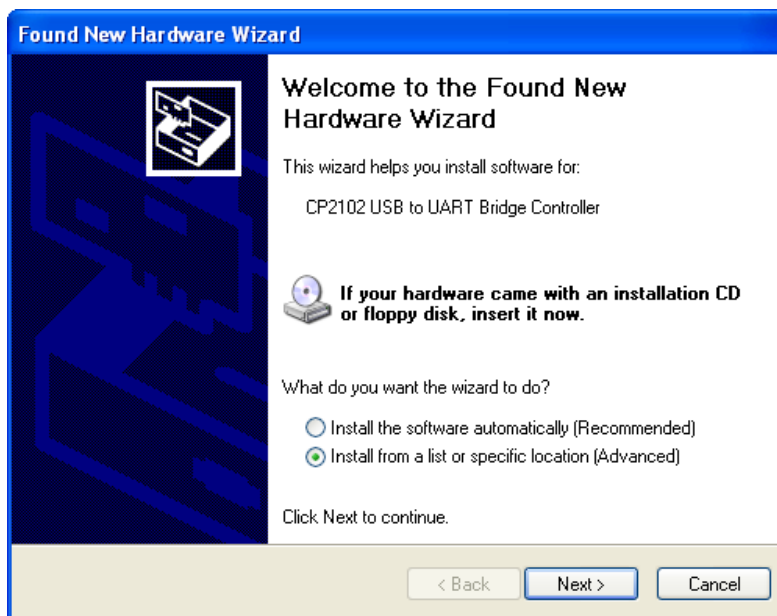

Figure 3 - Screen, New Hardware Wizard (Installation Method)
- 1) First, connect an evaluation board to the PC using a USB cable. Power the evaluation board by placing the '**POWER SWITCH**' in the '**VREG**' or '**USB**' position. A LED should illuminate indicating that power has been applied to the evaluation board. After a few seconds, the screen in Figure 3 should appear.